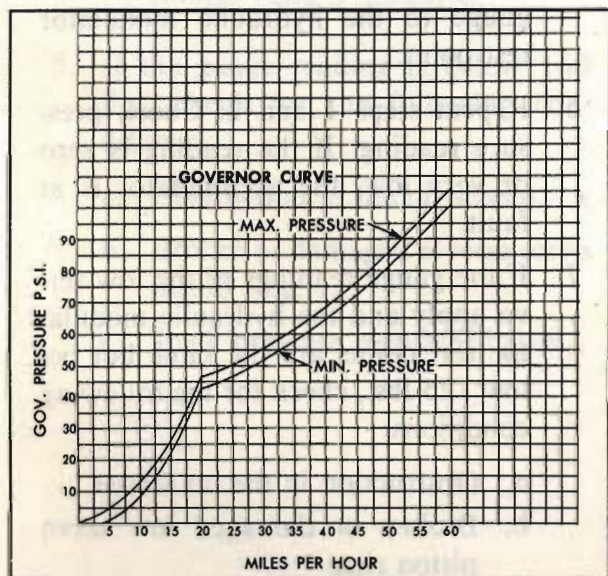

Fig. 8. Governor curve graph
* Refer to Governor Curve (Fig. 8).